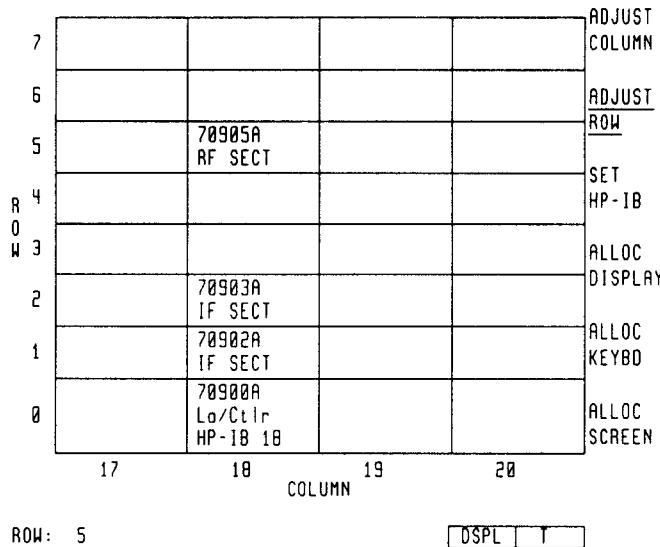

Figure 2-9. Adjusting Column and Row
6. Use the **↑** key to place the cursor on the RF section as in Figure 2-9.